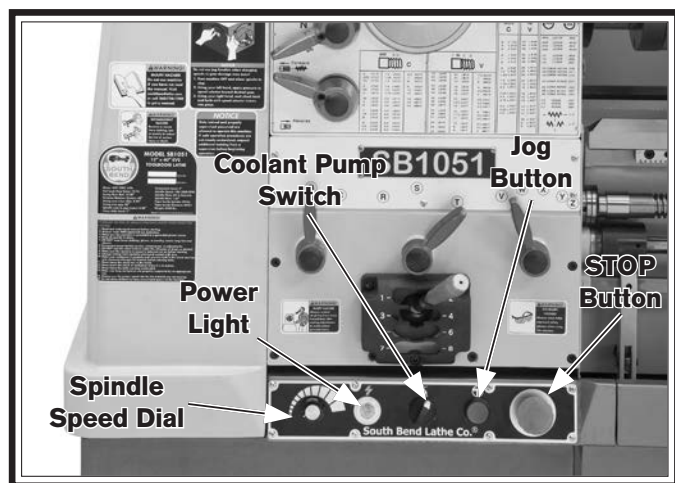

Figure 22. Control panel components.
5. Push the STOP button on the control panel (see **Figure 22**), and point the coolant nozzle into the chip pan.
8. Rotate the spindle speed dial (see **Figure 22**) all the way counterclockwise to set it at the lowest speed for startup.